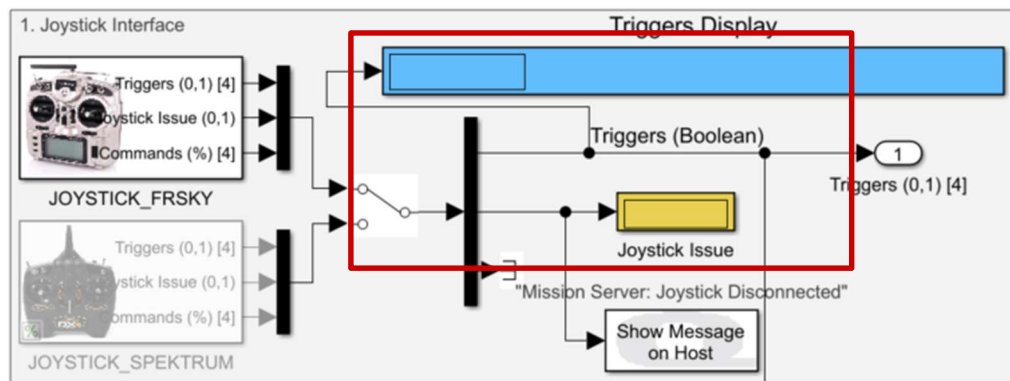

Figure 10. Triggers Display and Joystick Issue
14. Ensure that the **Joystick Issue** display (Figure 10) reads 0 (no joystick issues). Ensure that all the toggles are set away from the user (see FrSky Joystick documentation). Make sure that the joystick's Arm/Disarm toggle is set as in Figure 9a and the Takeoff/Land toggle is set as in Figure 9c.